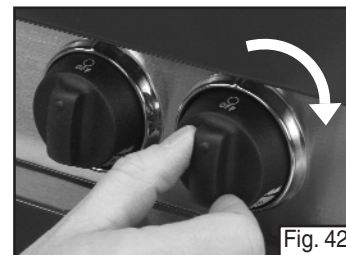

Fig. 42
- Make sure Burner Valves are in OFF position. (Fig. 42)